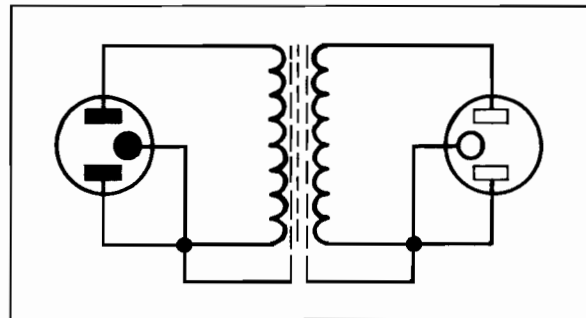

Figure 3-3. Isolation Transformer.
- To convert a dB reading to dBm, use the Impedance Correction Graph (Figure 3-3). For example: To convert a +30dB reading made across 50 ohms to dBm, locate the load impedance on the bottom of the graph. Follow the impedance line to the heavy black line and read the meter correction at that point. The correction for 50 ohms is +10.5dBm, and the corrected reading is +40.5dBm.
- When using an ac power source, ground loops can be eliminated by connecting the 400E/EL to an adequate isolation transformer. This will open the power line ground circuit as shown in Figure 3-3.